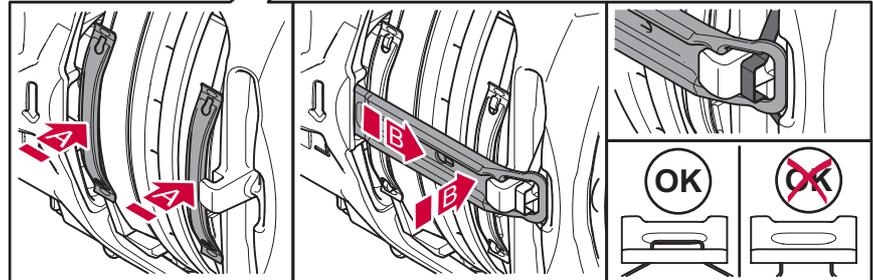

Figure 35. Installation brake pad components
8. Fit the new pad springs (A) and the pad retainer (B). The pad retainer is fitted by first locating the pad retainer in the housing end in the calliper aperture, then compressing the pad springs and locating the pad retainer slot over the calliper latch, finally slide the pad retainer under the calliper latch until the spring bracket pops into its locking position, see figure 35.